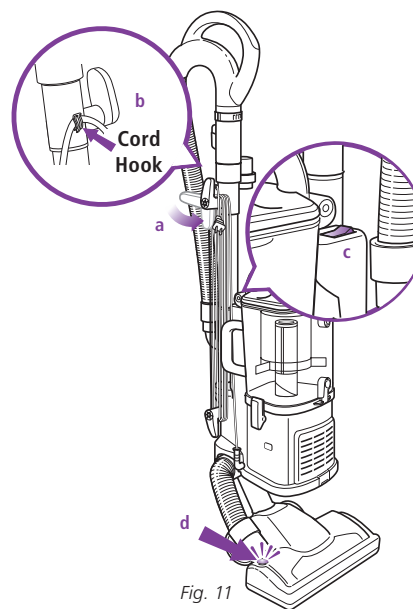

Fig. 11
- 1 Rotate the cord release (a) to quickly release the power cord. (Fig. 11)
- 2 Secure the power cord in the cord hook (b). (Fig. 11)
- 3 Press the On/Off switch (c) to the "1" position to vacuum bare floors (straight suction only) or to the "||" position to engage the motorized floor brush (for vacuuming carpets and rugs). (Fig. 11)
! **IMPORTANT:** The motorized brush indicator light (d) will illuminate solid green when motorized floor brush is on, or solid red if there is a blockage. (Fig. 11) This feature is designed to protect your Lifetime Belt that powers your motorized floor brush. See Checking for Blockages on page 15.